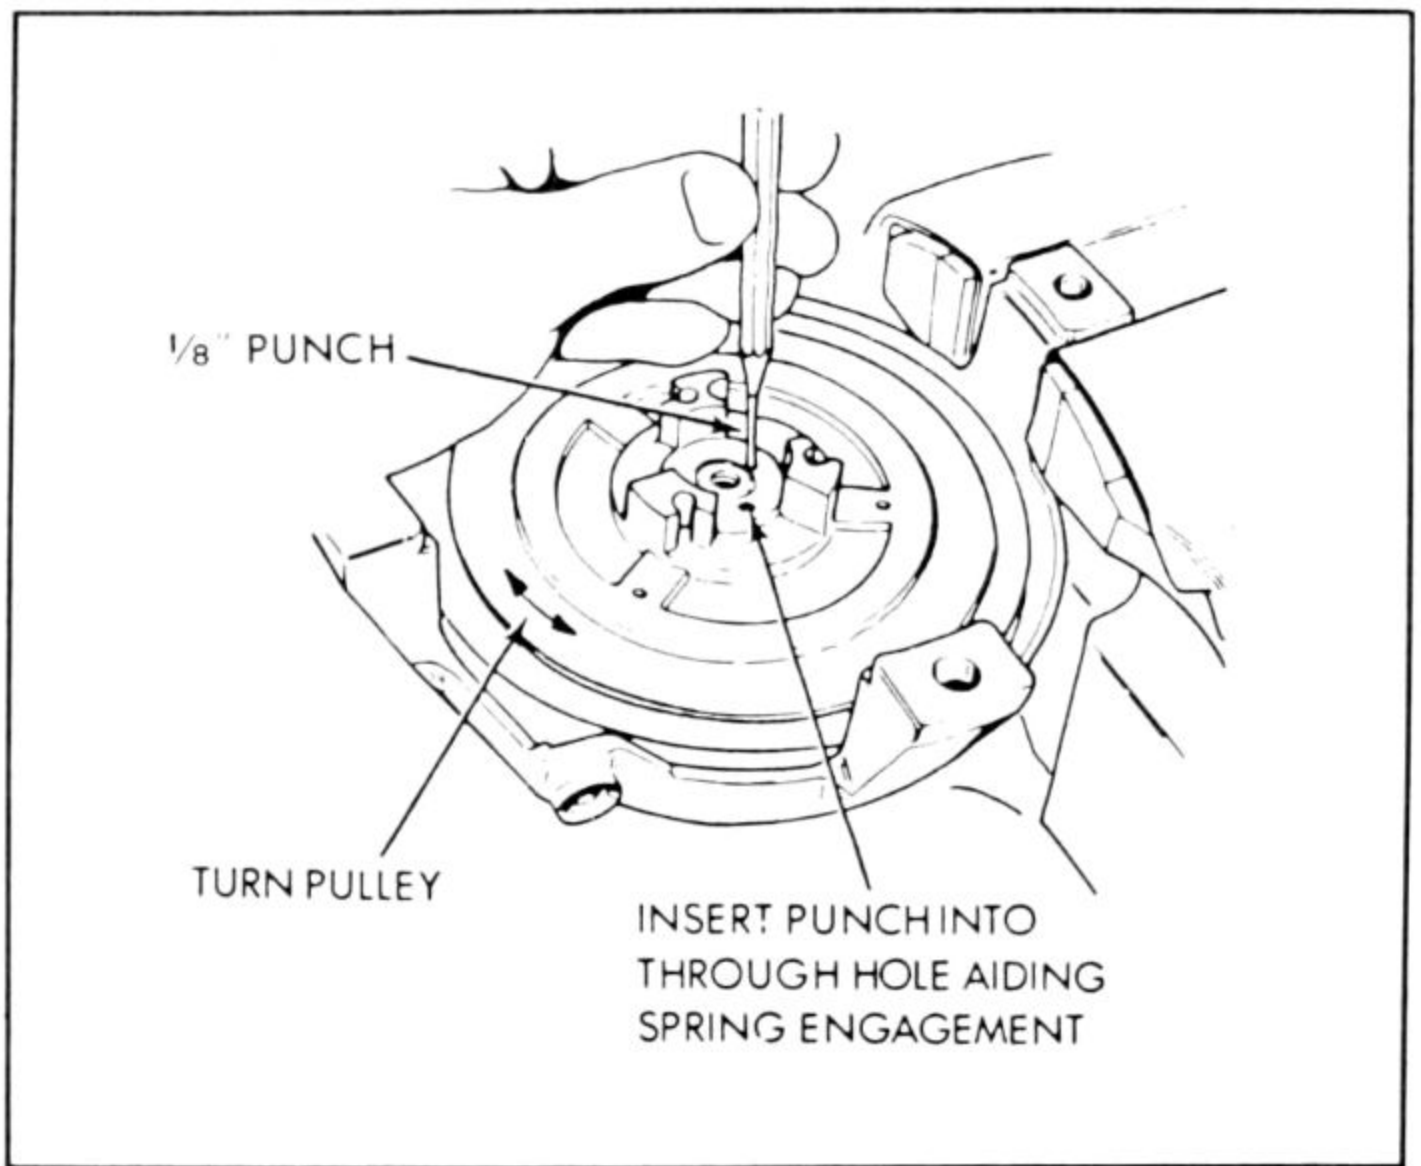

Fig. 4-13. A punch aids spring-to-sheave engagement on large Eaton starters.
B) Install sheave on sheave pivot shaft, engaging inner end of mainspring. A punch or piece of wire can be used to snag the spring end as shown in Fig. 4-13. Install clutch assembly.